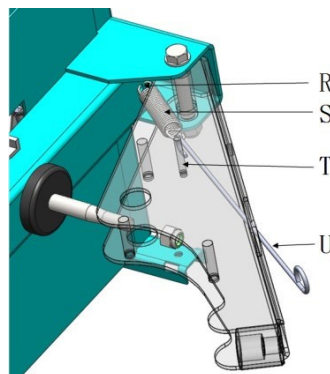

Fig. 9
- Next, first insert the spring (S, fig.9) securely so that it is tight, then pull the spring out with a spring hook (U, fig.9) and place it around the spring pin (T, fig.9) in the heel breaker arm. Now unhook the spring hook (U, fig.9).